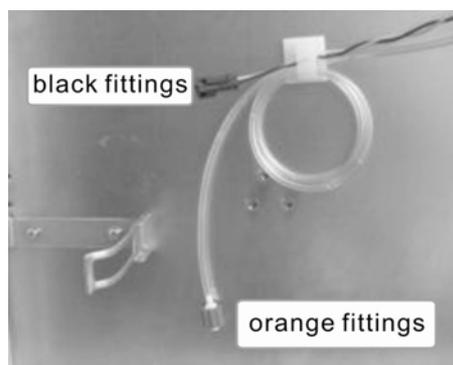

Figure 4-6
2. Locate the black and orange fittings as shown in Figure 4-6;